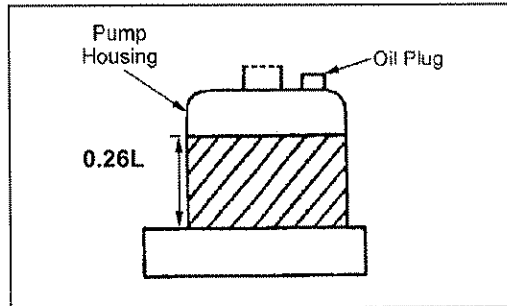

Fig. 5
Check the oil level annually by removing the oil plug (46) on top of the pump housing. When changing or adding oil, fill the tank through the oil plug hole with 8.8 ounces (0.26L) of new hydraulic jack oil. See Figure 5. Do not use any other type of oil. When finished, replace oil plug (46).
- . Reassemble and fill the oil tank through the oil plug hole with 0.26L (8.8 oz.) of new hydraulic jack oil. See Fig. 5.